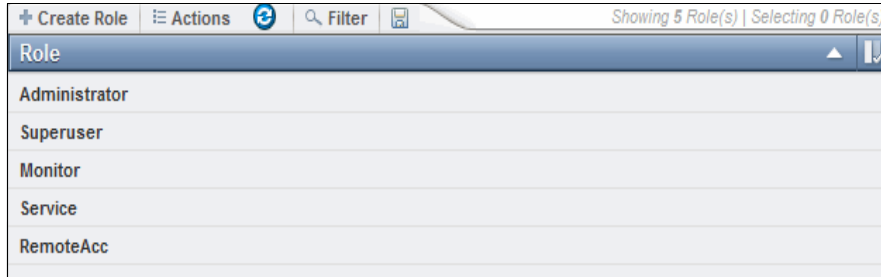

Figure 4-67 Role window
*Roles* define the pages that users can view and the actions that they can perform. Library administrators manage roles and the users that are assigned to them. Figure 4-67 shows the Role window.